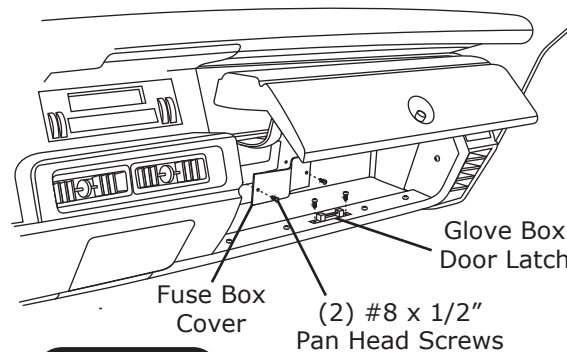

Figure 17b
8. Install fuse box cover in glove box using (2) #8 x 1/2" pan head screws (See Figure 17b, below).
9. Reinstall glove box latch using OEM screws (See Figure 17b, below).